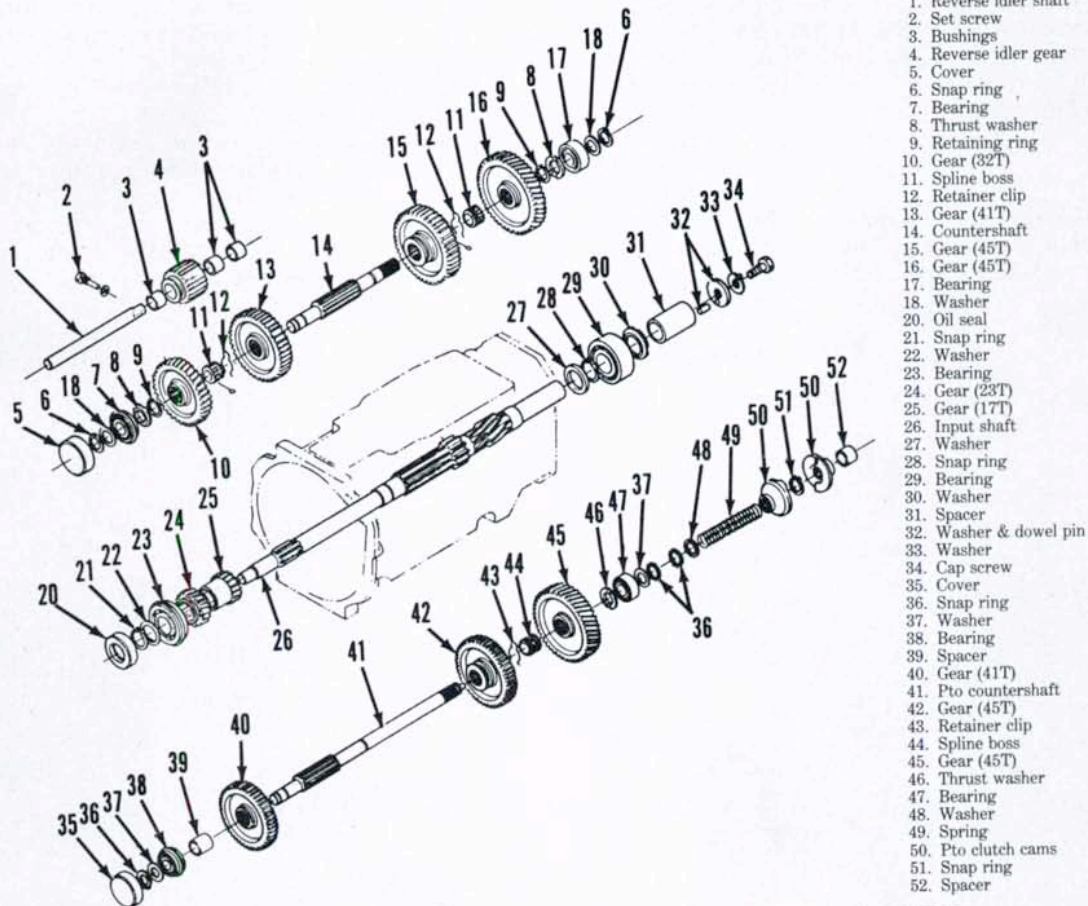

Fig. 100—Exploded view of gears and shafts located in front transmission housing on Model L295.
**71. OVERHAUL.** To disassemble main transmission, remove shift housing and forks. Remove clutch release bearing, fork and shaft, then unbolt and remove front oil seal retainer. Remove retaining rings from countershaft (14—Fig. 99 or 100), then tap shaft forward until front bearing is out of housing. Remove bearing retaining ring, then remove front bearing using a suitable puller. Tap countershaft rearward and withdraw gears as shaft is removed. Use a brass drift to tap input shaft (26) and bearings forward out of housing. Remove bearings and gears from shaft as necessary. Remove set screw (2) retaining reverse idler shaft (1), then withdraw shaft and gear. Remove set screw securing pto shift fork shaft, then tap shaft forward and remove shift fork. Tap pto countershaft (37—Fig. 99 or 41—Fig. 100) forward until front bearing is out of housing. Use a suitable puller to remove front bearing, then tap shaft rearward and withdraw gears and pto drive one-way clutch assembly.